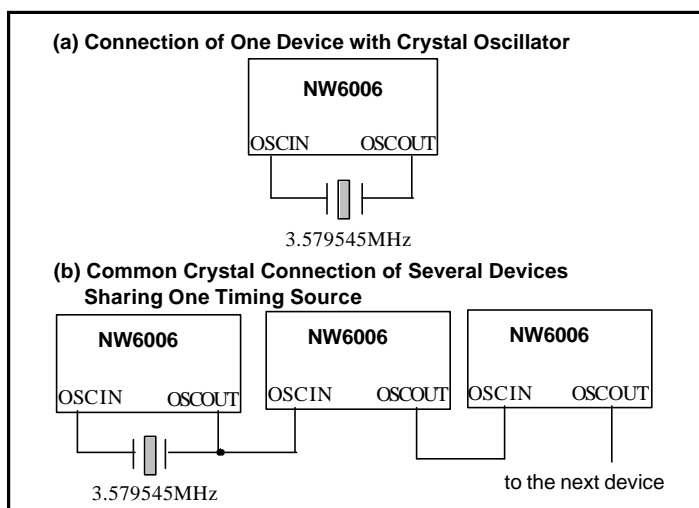

Figure 8. Application of Clock Driven Circuit
A 3.579545 MHz crystal oscillator or other external clock source is required for NW6005. The crystal can be directly connected between OSCIN and OSCOUT pins without any external component. If an external clock source is used, OSCIN pin should be driven by the clock source and OSCOUT pin is left floating or is used to drive other devices. Fig. 8 shows some applications.
- 2) By choosing  $t_{GA}=15\text{ ms}$ ,  $t_{ABS}$  will be 15-25 ms (refer to Fig. 8). Current wetting pulse and AC/DC load should be applied right after the  $\overline{\text{STD}}$  rising edge.